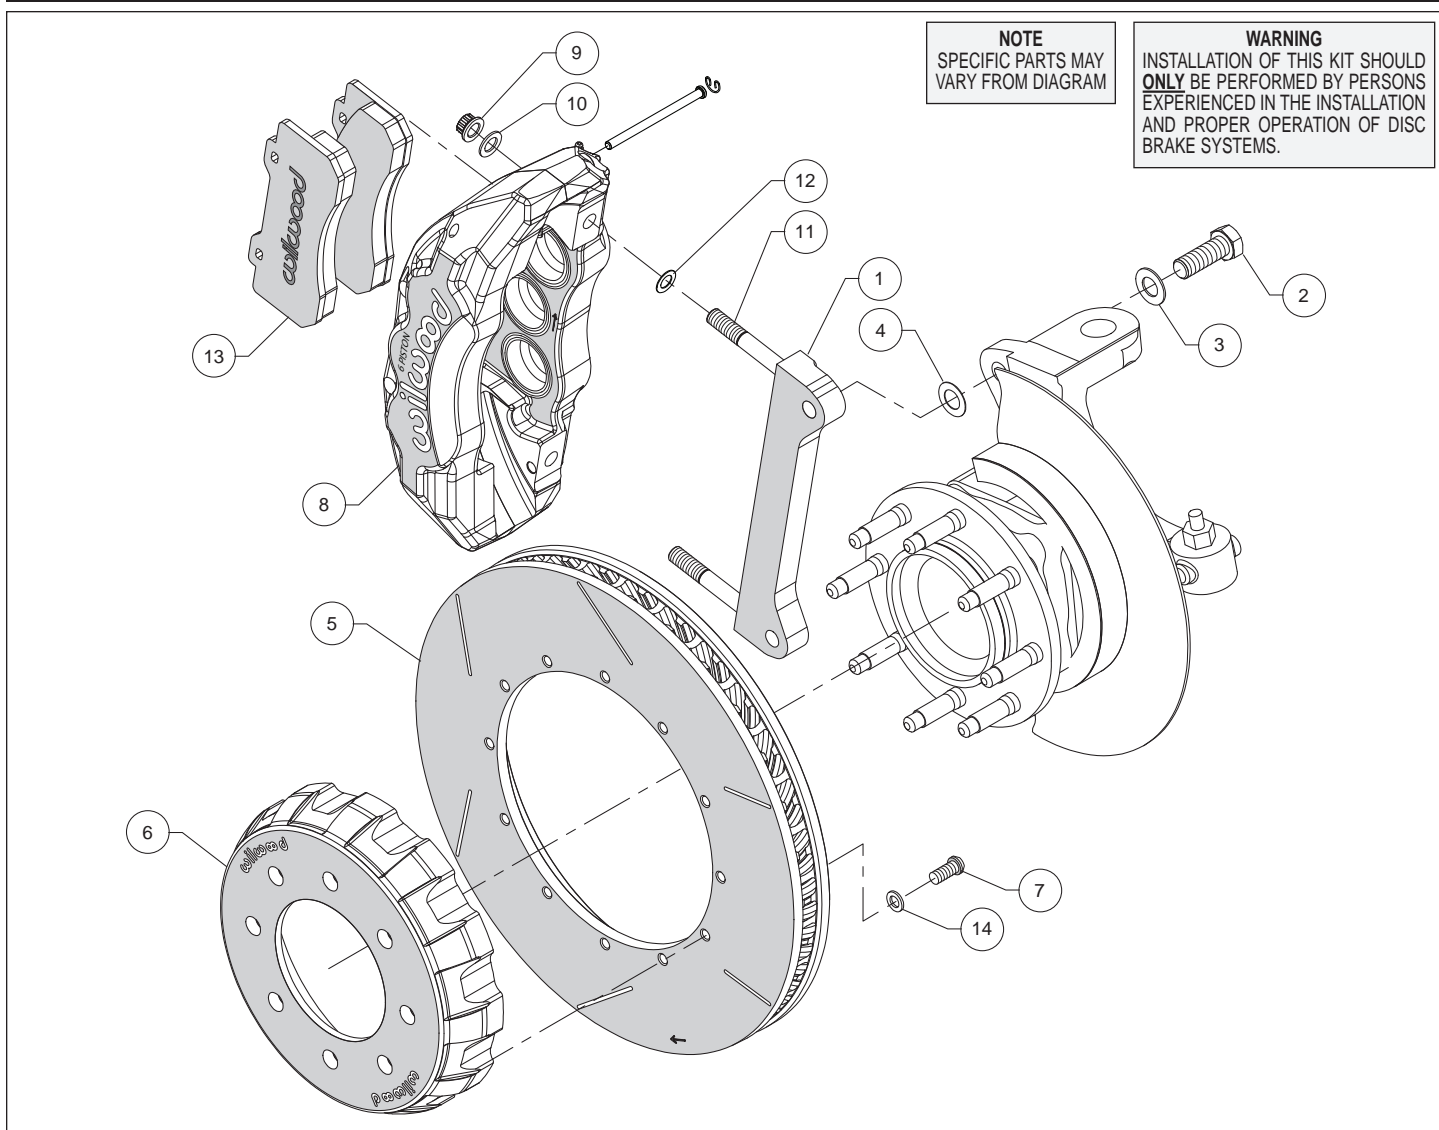

Figure 1. Typical Installation Configuration
**Assembly Instructions** (numbers in parenthesis refer to the parts list and Figure 1 on the preceding pages):
- The caliper mount bracket (1) should initially be installed with clean, dry threads on the mounting bolts. Orient the bracket as shown in Figure 1 and Photo 1, and install using bolts (2) and washers (3). Initially place one .024 thick shim (4) on each bolt between the bracket and upright, Figure 1. Temporarily tighten the mounting bolts. **NOTE:** *The bracket must fit squarely against the mount bosses on the upright.* Inspect for interference from casting irregularities, machining ridges, burrs, etc. Later, after the caliper alignment has been checked, the mount bolts will be secured using red *Loctite*® 271.
- Orient the rotor (5) and the hat (6) as shown in Figure 1 and Photo 2. Attach rotor to hat using bolts (7) and washers (14). Using an alternating sequence, torque to 25 ft-lbs.
- NOTE:** *This kit contains distinct right and left hand calipers that must be mounted in a specific direction, as described below.* Lubricate the caliper mounting studs (11) with lightweight oil. Initially place one .032" thick shim (12) on each stud as shown in Figure 1 and Photo 3. Mount the caliper (8) onto the bracket (1) using lock nuts (9) and washers (10), Figure 1. Ensure that the caliper is mounted so that the largest pistons are at the rotor exit end of the caliper, in relation to the direction of rotor rotation. Temporarily tighten the lock nuts and view the rotor through the top opening of the caliper. The rotor should be centered in the caliper, Photo 4. If not, adjust by adding or subtracting shims (4) between the bracket and the upright. Always use the same amount of shims on each of the two mounting bolts. Once the caliper alignment is correct, remove the bracket mounting bolts (2) one at a time, apply red *Loctite*® 271 to the threads, and torque to 120 ft-lb.